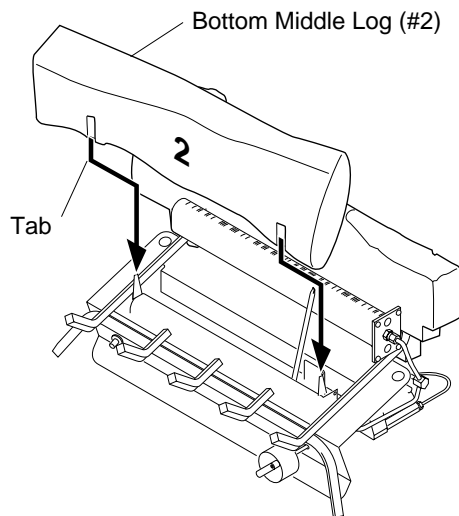

Figure 17 - Installing Bottom Middle Log
2. Slide bottom middle log (#2) into place in behind front burner. Make sure tabs at bottom of log are behind front burner (see Figure 17).